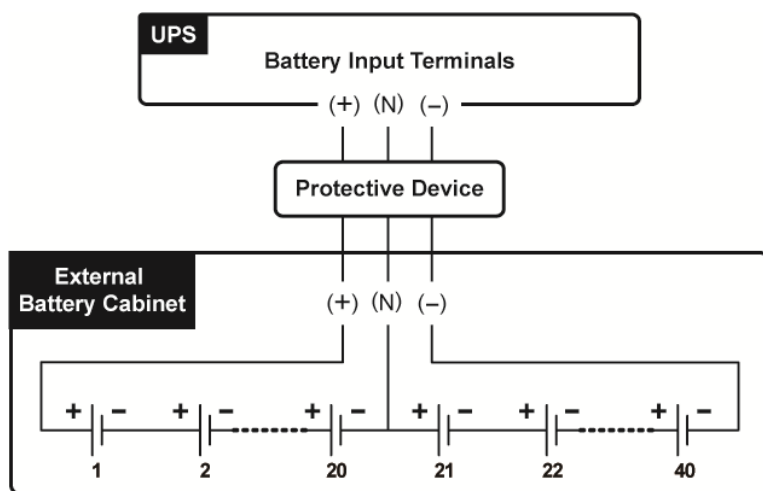

Figure 5-16: External Battery Cabinet Connection
- To connect the external battery cabinet(s) to the UPS, please refer to **5.5 Wiring** and **Figure 5-16**.